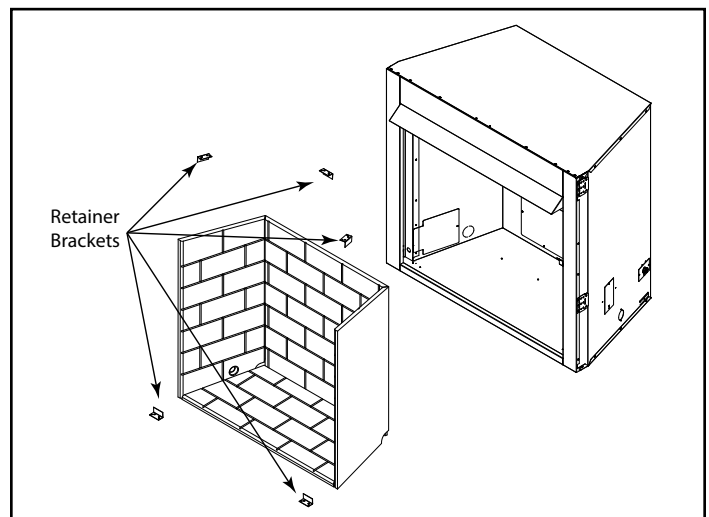

Figure 1
2. Remove existing firebrick if installed by removing bracket at top front of side brick panel. Tilt brick into box and lift out. Repeat for opposite side. NOTE: Retain brick brackets for installation of new panels. See Figure 1.